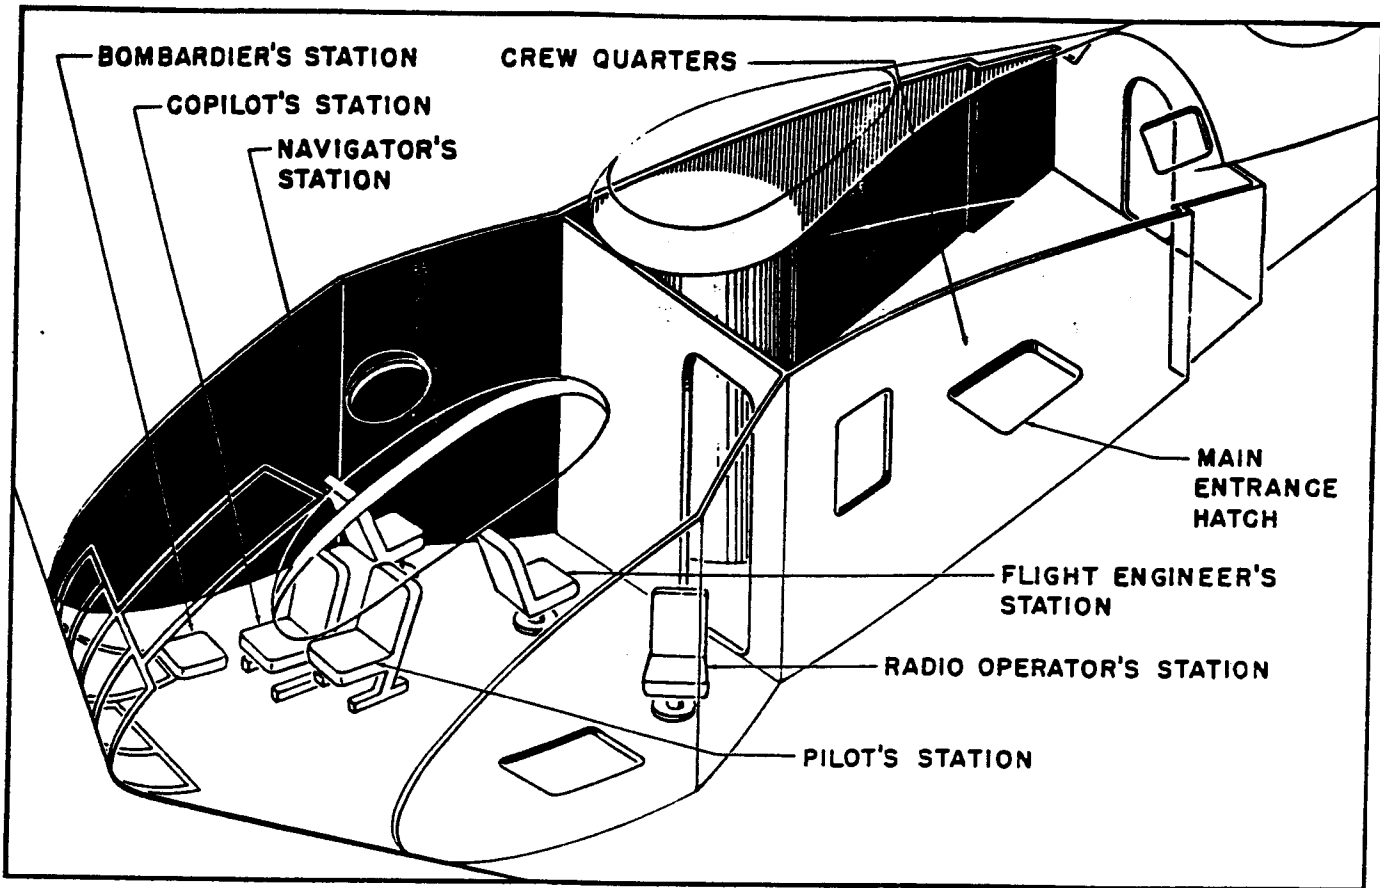

Figure 2. Crew Stations
1. GENERAL.- The Northrop XB-35 heavy bombardment airplane, serial number 1AF42-13603, is a flying wing of the pusher type, powered by four R-4360 turbosupercharged engines; each driving an eight-bladed, dual rotating, reversible pitch propeller. It has a wing span of 172 feet, an overall length of 52 feet, and an overall height of 20 feet. The weight empty is approximately 84,000 pounds and the maximum gross weight is approximately 140,000 pounds. This airplane has not been equipped with armament but dummy fairings have been installed to simulate gun turrets and sighting stations. Eight bomb bays are incorporated in the wings. The crew nacelle is located at the center of the wing and provisions have been made to accommodate a crew of six; pilot, copilot, flight engineer, navigator, radio operator, and bombardier. (See figure 2.)